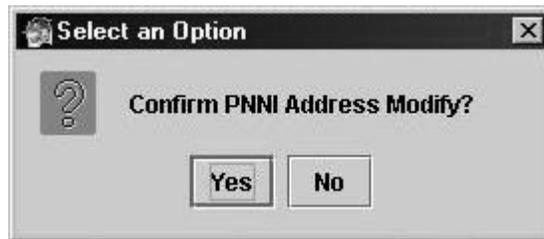

Figure 8-10: Confirm Modify Exterior IISP Address Dialog
3. Click **MODIFY**. The Select an Option dialog displays. See Figure 8-10.